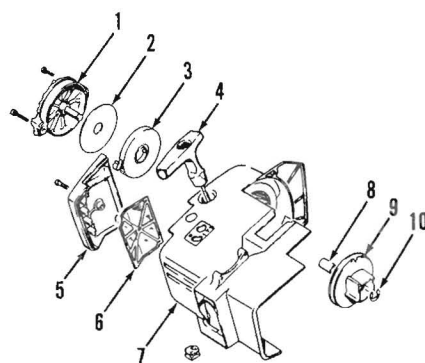
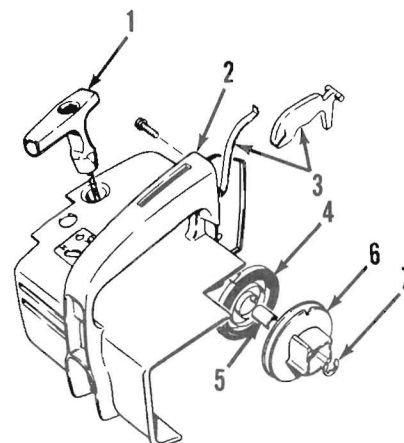

Fig. ST9—Exploded view of rewind starter assembly used on Models 015AV and 015AVE.
Fig. ST10—Exploded view of rewind starter assembly used on Models 015, 015L and 015LE.
REWIND STARTER. Two types of rewind starter assemblies are used. On Models 015AV and 015AVE equipped with anti-vibration handle, starter assembly shown in Fig. ST9 is used. On all other models, starter assembly shown in Fig. ST10 is used.
Models With Anti-Vibration Handle. To service starter on models with anti-vibration handle, remove mounting screw from lower end of handlebar and swing handlebar to the side to provide access to starter cover (1—Fig. ST9). Remove cover mounting screws and pry cover out of fan shroud (7). Remove "E" ring (10) and withdraw rope pulley (9) from cover (1). Lift rewind spring assembly (3) from cover being careful not to allow spring to unwind uncontrolled.
Models Without Anti-Vibration Handle. To service starter used on models without anti-vibration handle, remove choke lever, spark plug, air filter cover and air filter. Unbolt and remove starter housing/fan shroud (2—Fig. ST10) from engine. If rope is not broken, remove rope handle (1) and allow rope pulley to slowly unwind to relieve tension on rewind spring. Remove "E" ring (7) and lift rope pulley (6) upward only far enough so that a screwdriver or other suitable tool can be inserted through rope guide bore in housing and pushed between pulley and rewind spring (4) to ensure spring does not become disengaged as pulley is removed. Remove rope pulley being careful not to allow rewind spring (4) to unwind uncontrolled. If it is necessary to remove rewind spring, carefully grasp spring with large pliers and remove from housing or